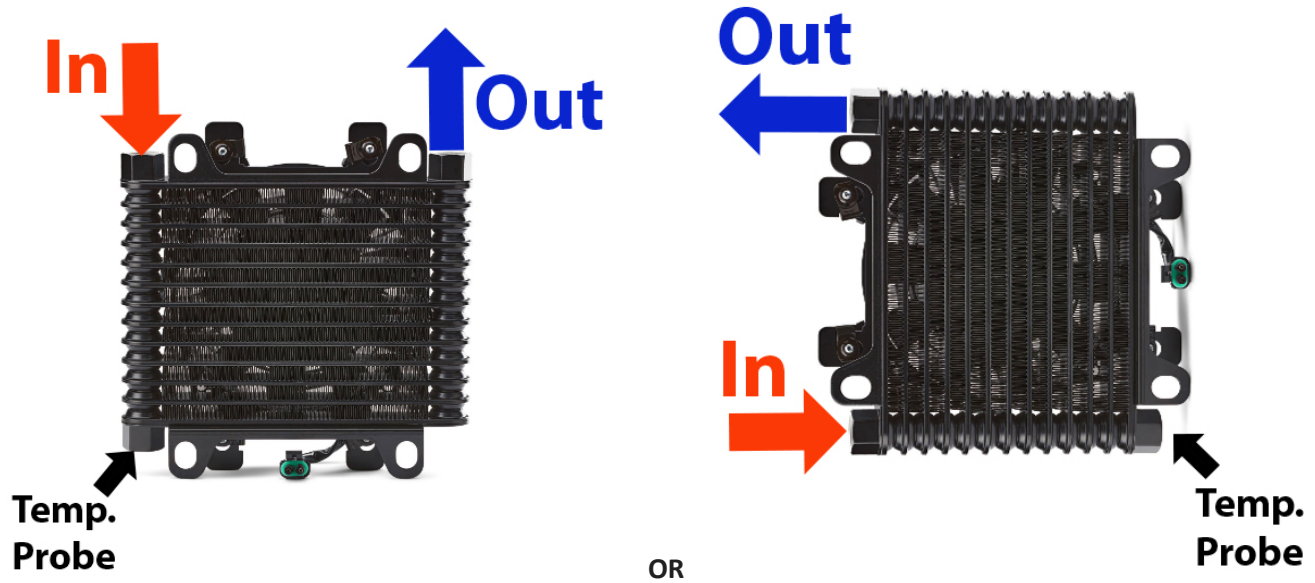

Figure 1
STEP 1. Decide on the best mounting position for your cooler; see Figure 1 for mounting positions. Using the correct mounting position is critical for the thermostatic probe to turn on and off correctly. If there is a lot of airflow in the area around the thermostatic probe, it may need to be insulated to prevent inaccurate temperature detection. Do not mount the cooler to the chassis or frame rails that may flex during vehicle operation. This may result in leaks or cooler failure. Rubber isolation mounts are recommended.